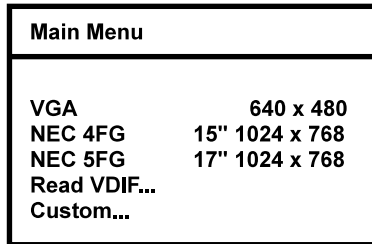

Figure 5-2 Monitor Selection Menu
1. Select QUICK SETUP from the Main Menu by highlighting the selection and pressing <Enter>. A Monitor Selection Menu will appear (see Figure 5-2).